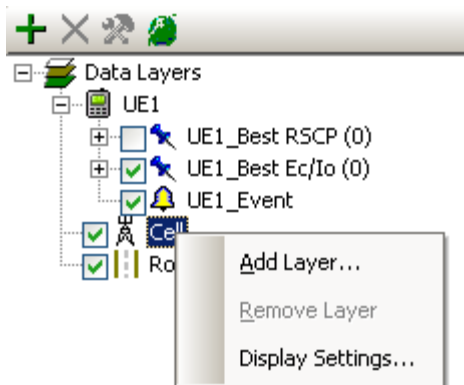

Figure 6-14 Setting display mode for cell information
- 2) If other information needs to be displayed, choose **Display settings** on the **Map Layers**. Alternatively, right-click the **Cell** and choose **Display Settings** on the shortcut menu, as shown in Figure 6-14.